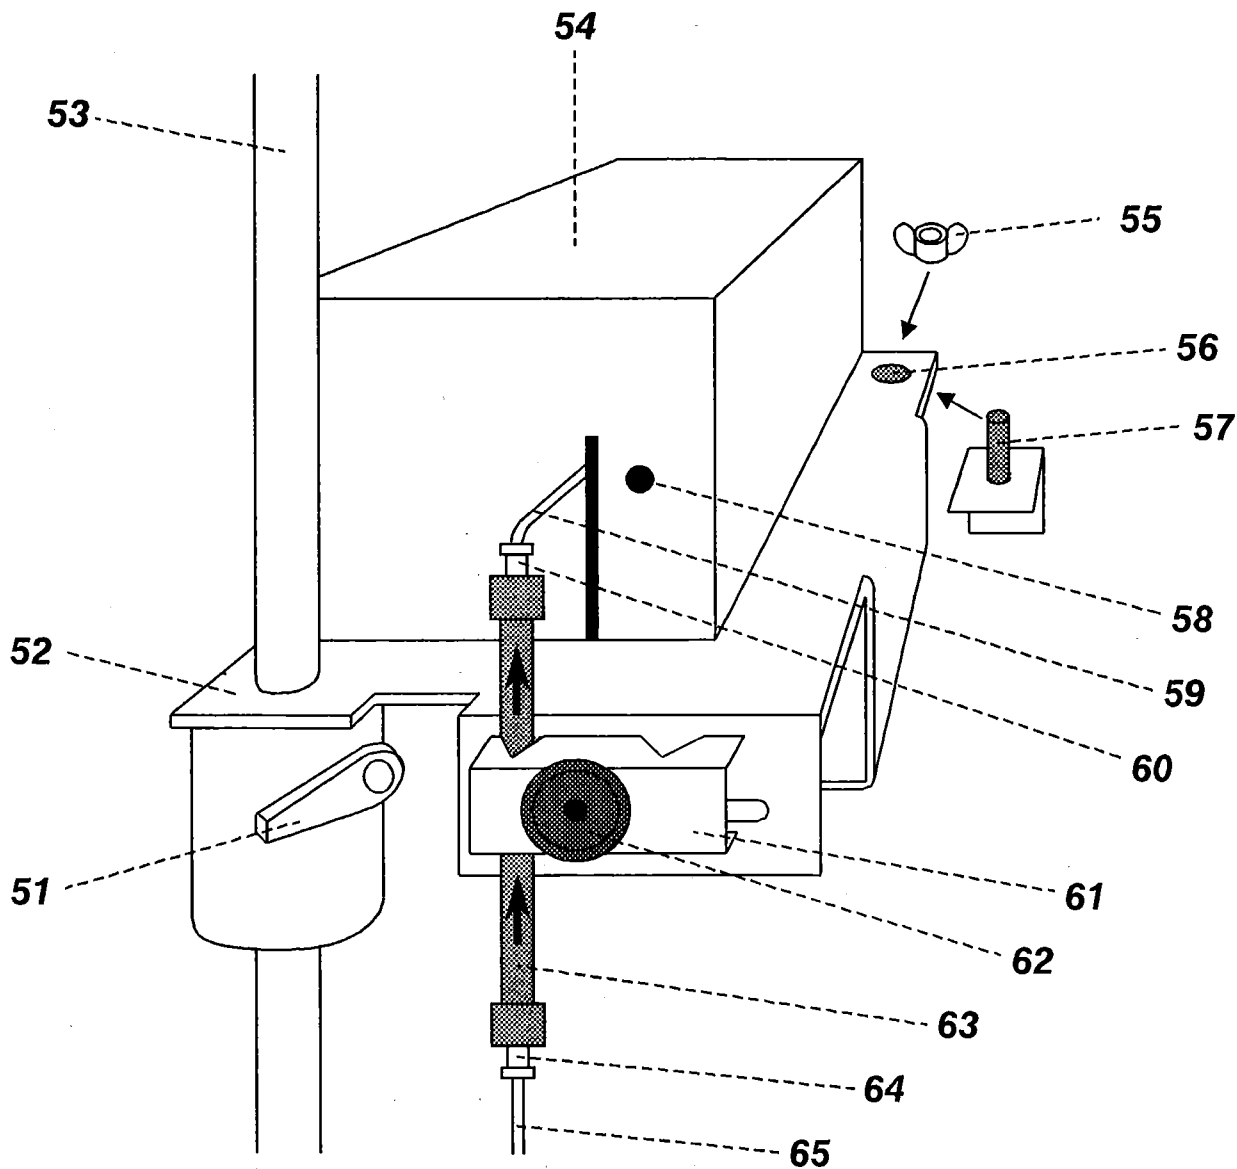
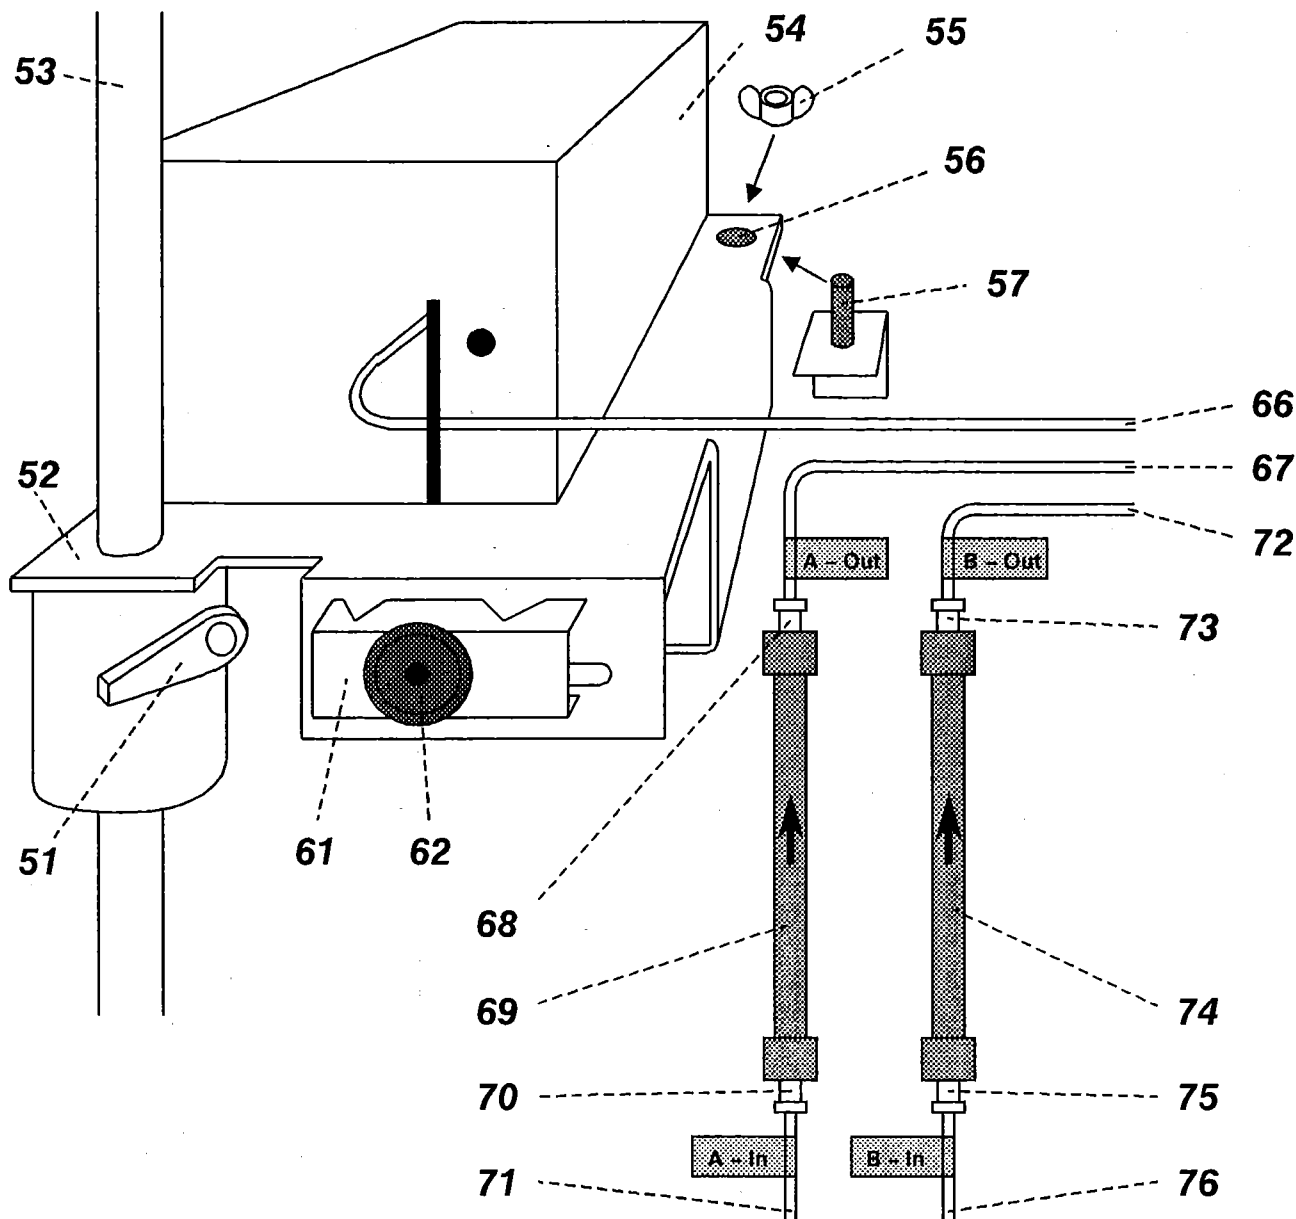

Fig. 13: Detector and column at the 690.0010 and 690.0020 Ion Chromatograph
Fig. 14: Detector and column at the 690.0030 Ion Chromatograph
Before insertion of the column, the connection capillary between the 697 IC Pump and the 690 Ion Chromatograph has to be filled up to the end of the capillary (65) (see Fig. 13) with eluent and be rinsed:
- 1▶ Turn the injection valve switch (14) into the "Inject" position.
- 2▶ Switch on the pump and deliver eluent until it emerges at the end of capillary (65).
- 3▶ Put a beaker under the end of capillary (65).
- 1▶ Press downwards briefly the injection valve switch (34). The red lamp (33) indicates that the injection valve is in the "Inject" position.
- 2▶ Screw precolumn to connection (64) [(70) or (75) resp.] of the capillary (65) [(71) or (76) resp.] (inlet from injector) (see Fig. 13 and Fig. 14 resp.).
To protect the detector block (54) fixed on the platform (52) during transport, it is screwed onto the rear of the instrument (see Fig. 13). The position of the detector block is adjusted as follows:
- 1▶ Unscrew fly nut (55) (store up for another transport).
- 2▶ Loose locking lever (51) by turning anticlockwise.
- 3▶ Slid the platform (52) together with the permanently mounted detector block (54) to the desired height on the stand rod (53) and lock it in place again by retightening the locking lever (51).
The IC column is installed as follows (see Fig. 13):
The column A [column B] is installed as follows (see Fig. 14):